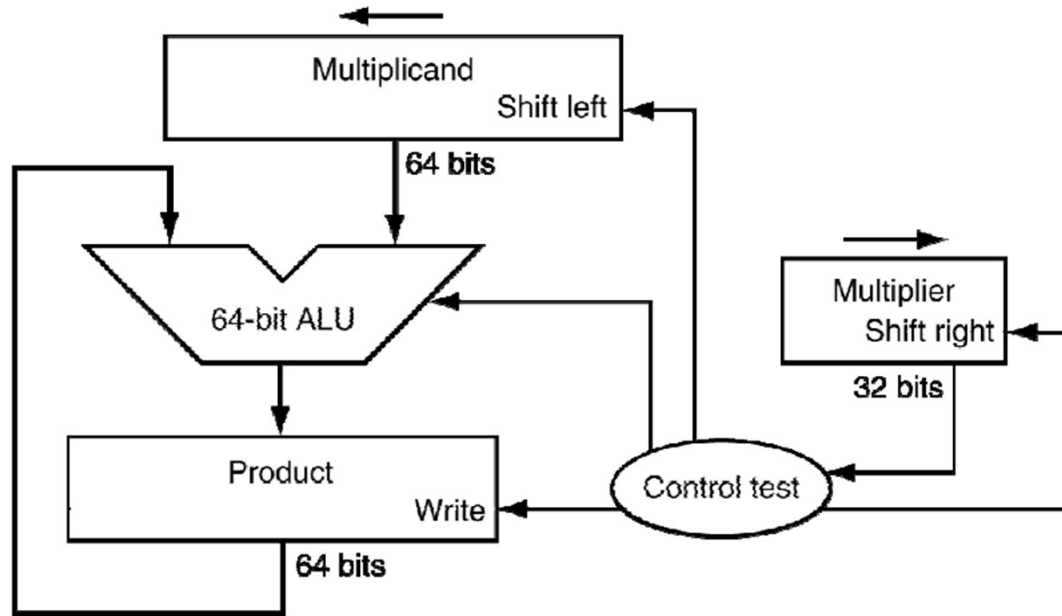

Figure 2: Multiplication Hardware
- (a) The Multiplication Hardware shown in Figure 2 performs the sequential multiplication of the Multiplicand with the Multiplier.